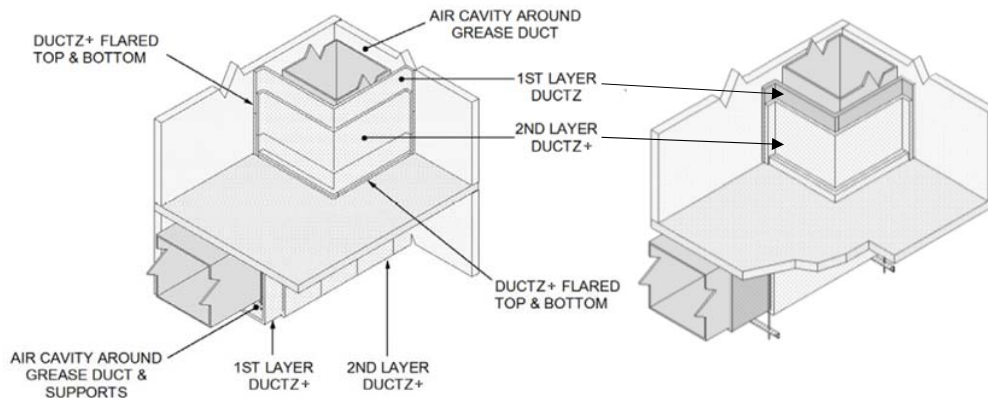

Figure 7. Two-Side Installation Top Isometric (Shown with and without Optional Air Cavity)
C. TWO-SIDED INSTALLATION – Refer to Figures 7 and 8.